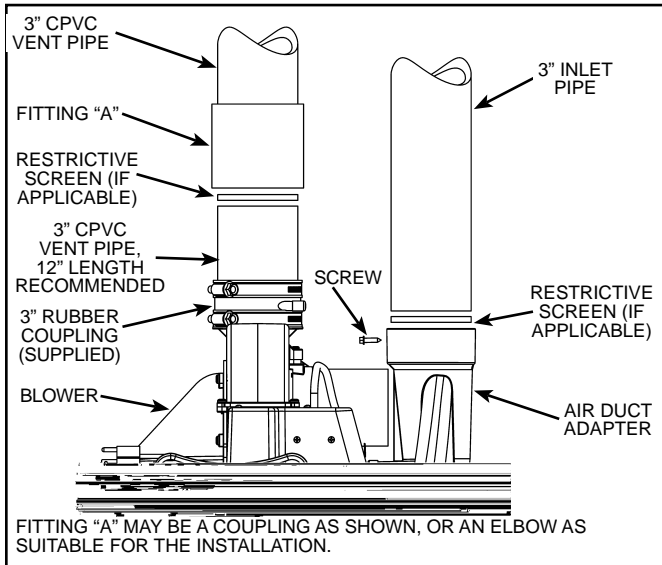
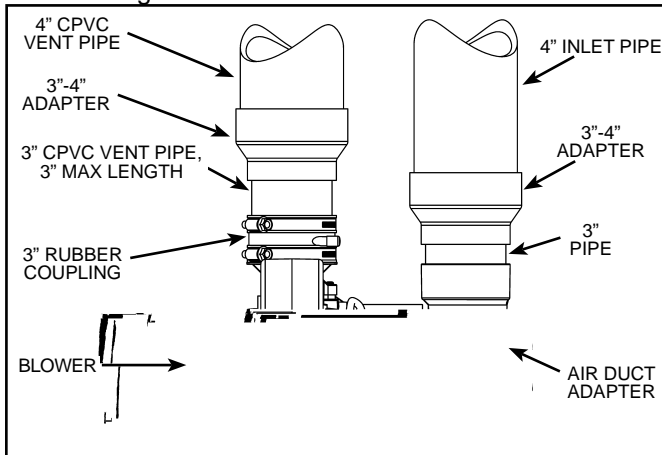

Figure 43.
Figure 44.
4. Make sure that the plastic tubing is still attached from the air pressure switch to the port on the blower motor housing. Make sure the plastic tubing is not folded anywhere between the pressure switch and the blower motor housing (see Figure 43 through Figure 44).
1. The CPVC vent piping (**5 ft. supplied**) connects into the rubber coupling located on the top of the blower assembly. This coupling includes gear clamps to connect the venting to the blower. See Figure 43.
**Important:** These connections must be properly seated and tightened to prevent the leakage of flue gases into the area. See Figure 43 through Figure 44.
Figure 43 shows heaters having 3" direct connection to the blower.
The restrictive screen (see Figure 37) and the air intake piping should be secured in place with a screw. To prevent damage to the equipment, first position the restrictive screen in place, then drill a pilot hole suitable for the screw being used. The screen must be fully seated and the screw should not interfere with the airflow through it. Once the pilot hole is drilled, place the intake pipe in position and secure in place using the screw (see Figure 43 through Figure 44). Do not use glue to secure this joint in order to allow the screen to be removed for cleaning. The screen in the exhaust piping should be located close to the blower and all exhaust piping joints should be glued.
If the installation requires restrictive screens (see Figure 37) the restrictive screens should be installed near the blower as shown in Figure 43 through Figure 44. If the restrictive screens are installed near the blower, it is recommended that debris screens (see Figure 37) be installed at the terminations.
Figure 44 shows the configuration for heaters connected to 4" venting.